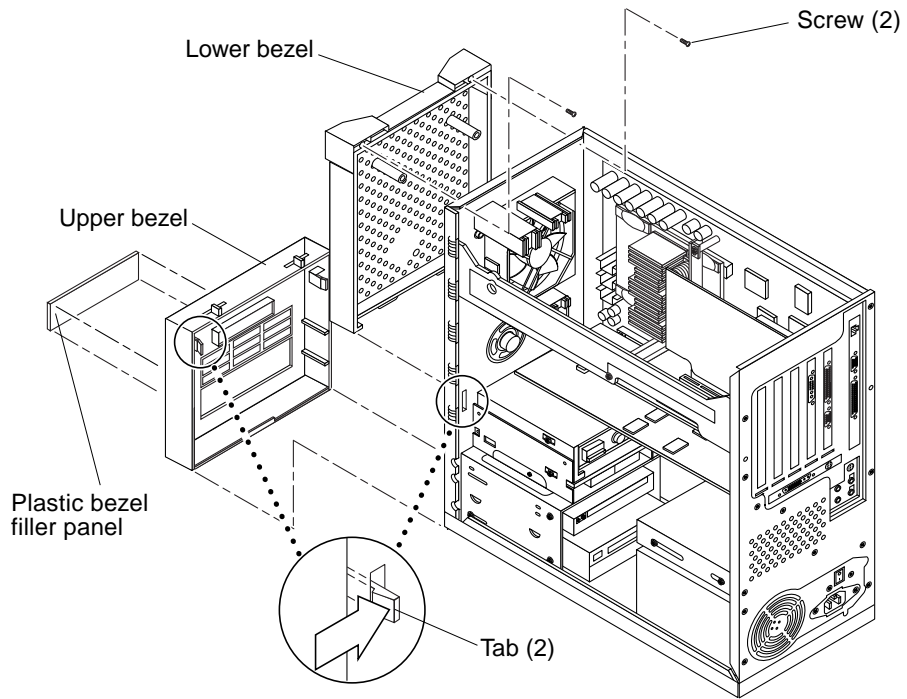
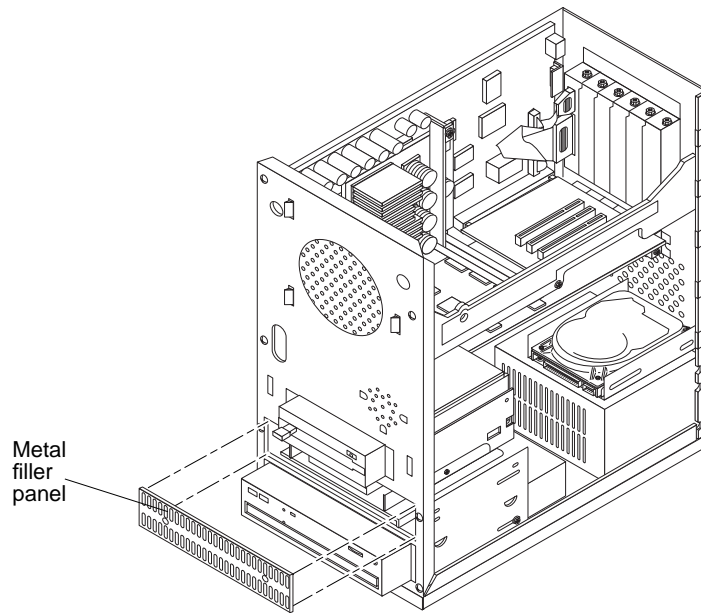

FIGURE 5-8 Removing a Plastic Filler Panel
FIGURE 5-9 Removing a Metal Filler Panel
3. Remove a filler panel as follows (FIGURE 5-8 and FIGURE 5-9):